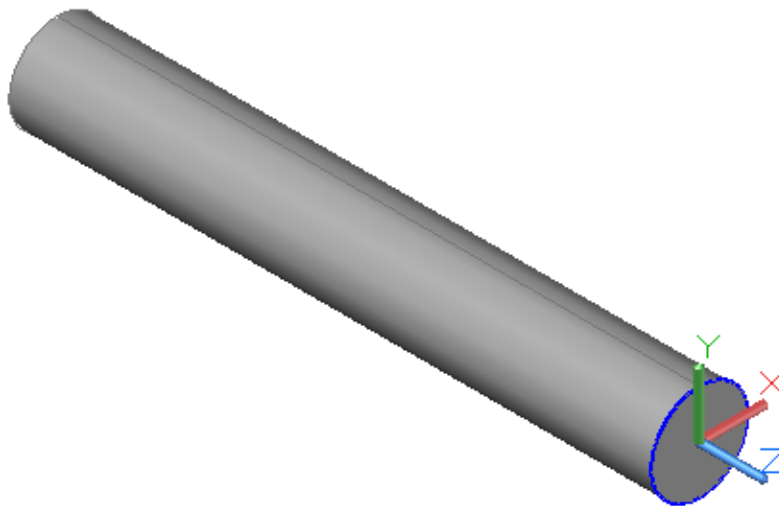

Figure Step 5
Step 5 Set layer: Solid 8 as the current layer and extrude the circle 5 inches in the negative Z direction. (Figure Step 5)